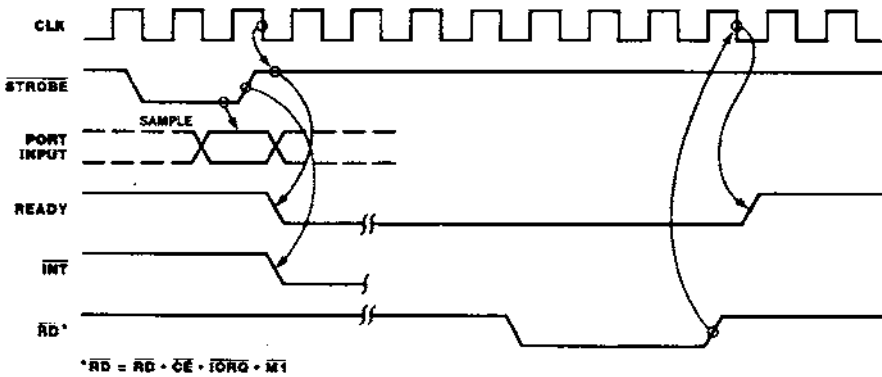

Figure 15. Mode 1 input Timing
**Input Mode (Mode 1).** When  $\overline{\text{STROBE}}$  goes from Low to High, data is latched into the selected port input register (Figure 15). While  $\overline{\text{STROBE}}$  is Low, the input data latches are transparent. The next rising edge of  $\overline{\text{STROBE}}$  activates  $\overline{\text{INT}}$ , if Interrupt Enable is set and this is the highest-priority requesting device. The following falling edge of CLK resets Ready to an inactive state, indicating that the input register is full and cannot accept any more data until the CPU completes a read. When a read is complete, the positive edge of  $\overline{\text{RD}}$  sets Ready at the next Low-going transition of CLK. At this time new data can be loaded into the PIO